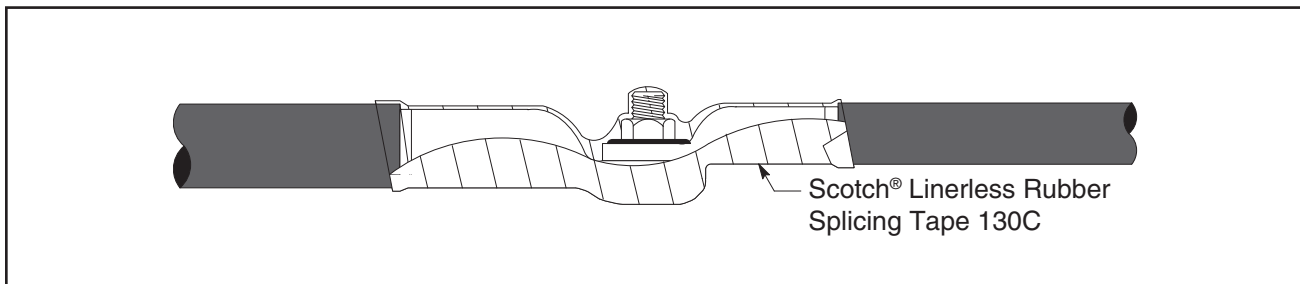

Figure 4
- 3.5 Cover the lugs and bolt with four half-lapped layers of Scotch® Linerless Rubber Splicing Tape 130C (*Figure 4*).